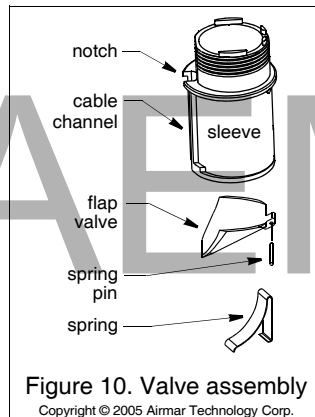

Figure 10. Valve assembly
Should the valve fail, it will need to be removed for servicing. Follow the steps below. If a new valve assembly is required and not immediately available, **the valve sleeve must be reinstalled in the multisensor housing for a watertight seal.** Remove the flap valve, spring pin, and spring from the sleeve (see Figure 10). Then reinstall the sleeve in the housing.
4. Clean, repair, or replace the valve assembly so the flap valve moves freely and seats against the sleeve (see Figure 10).
7. Remove the safety wire from the multisensor. With the combined valve assembly and paddlewheel insert ready in one hand, remove the blanking plug. Slide the assembly into the multisensor housing **with the arrow on the top pointing forward toward the bow.** Be sure the cable fits into the cable channel and the notch in the sleeve fits into the key in the housing (see Figure 10). (A pushing twisting motion will locate the key.) Screw the CAP nut in place, being careful to avoid cross-threading. **Hand-tighten** only. Do not over tighten.